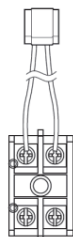

Fig.1
Step 3. Connect External cable with the sensor like Fig. 1.
[Fig. 1]
- ① Find backup heater terminal block Kit(Fig. 1).
- ② Assemble the terminal block kit using screw on unit.